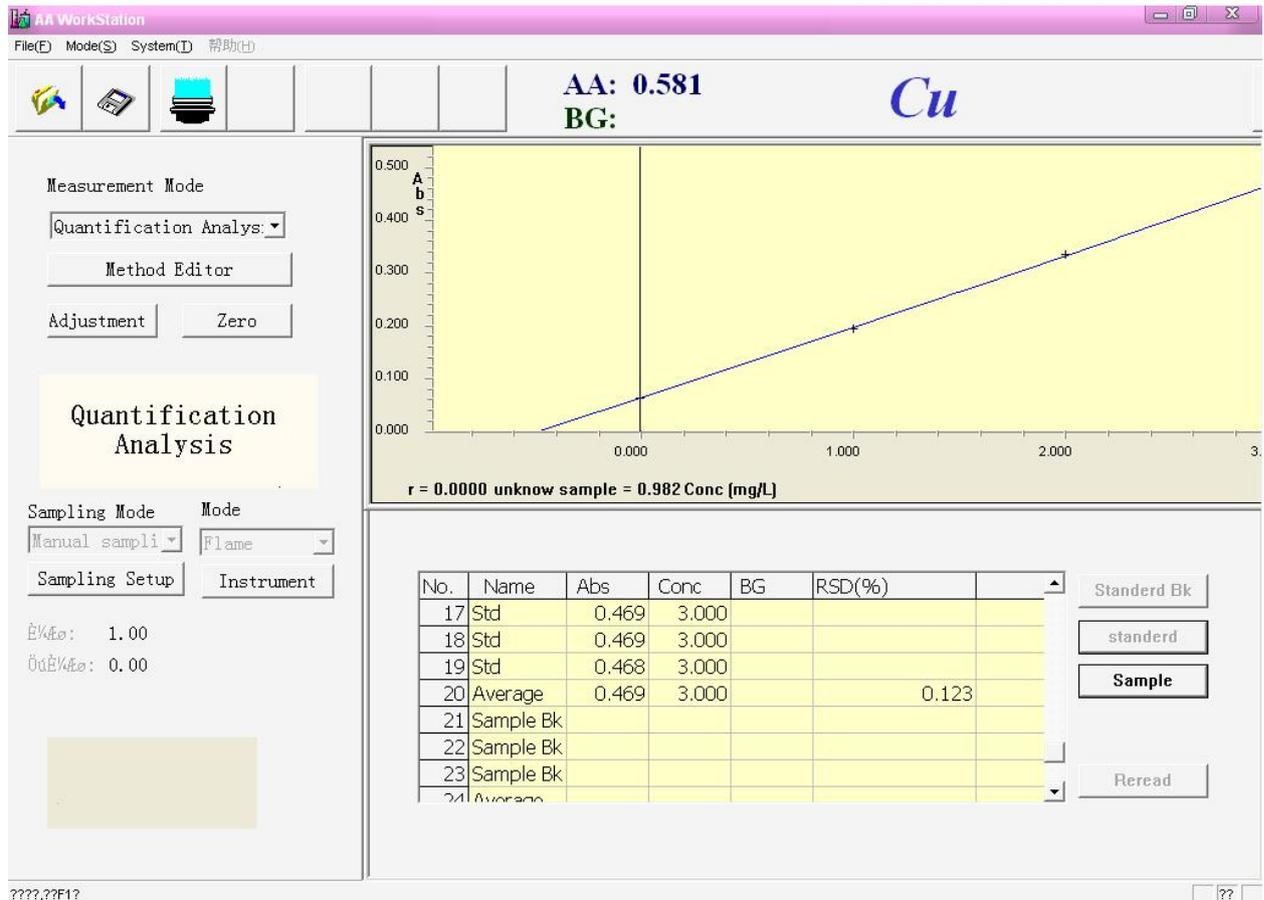

Figure 5-34
9. After the testing, display the figure 5-34